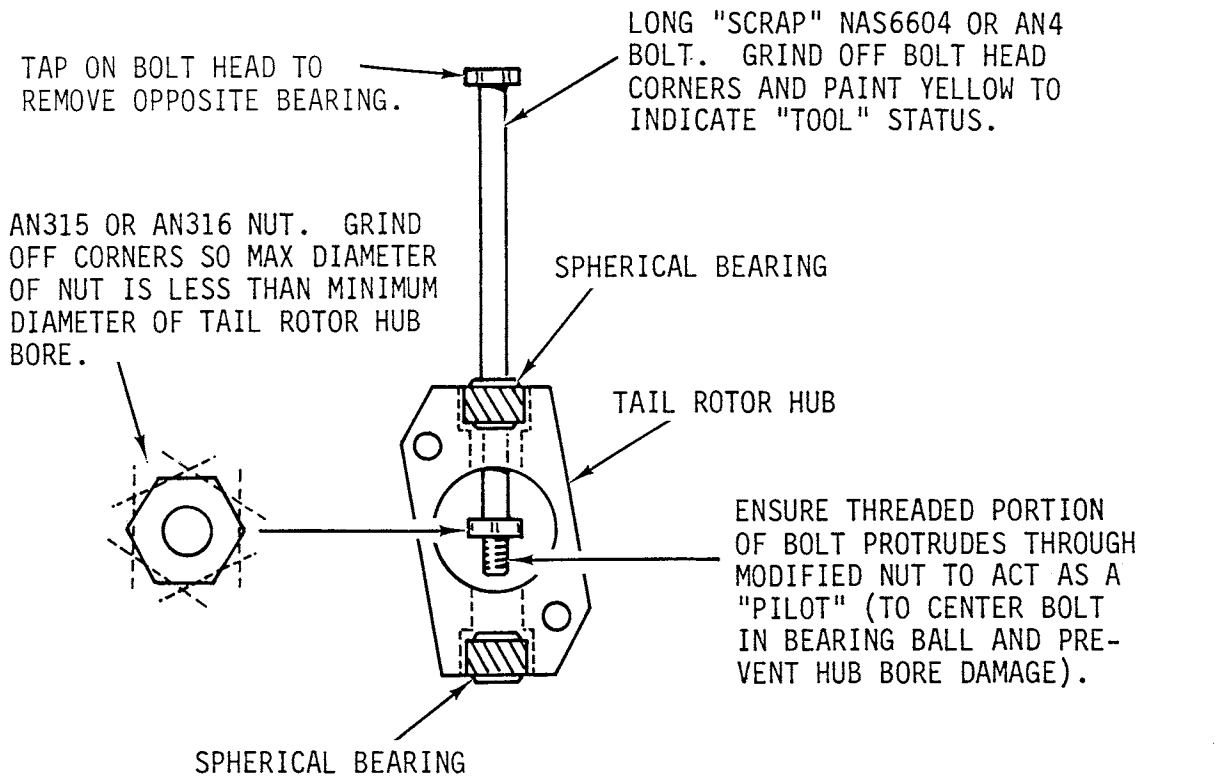

FIGURE 9-13A TAIL ROTOR HUB SPHERICAL BEARING REMOVAL
4. See Figure 9-13A. Press out worn bearing(s).